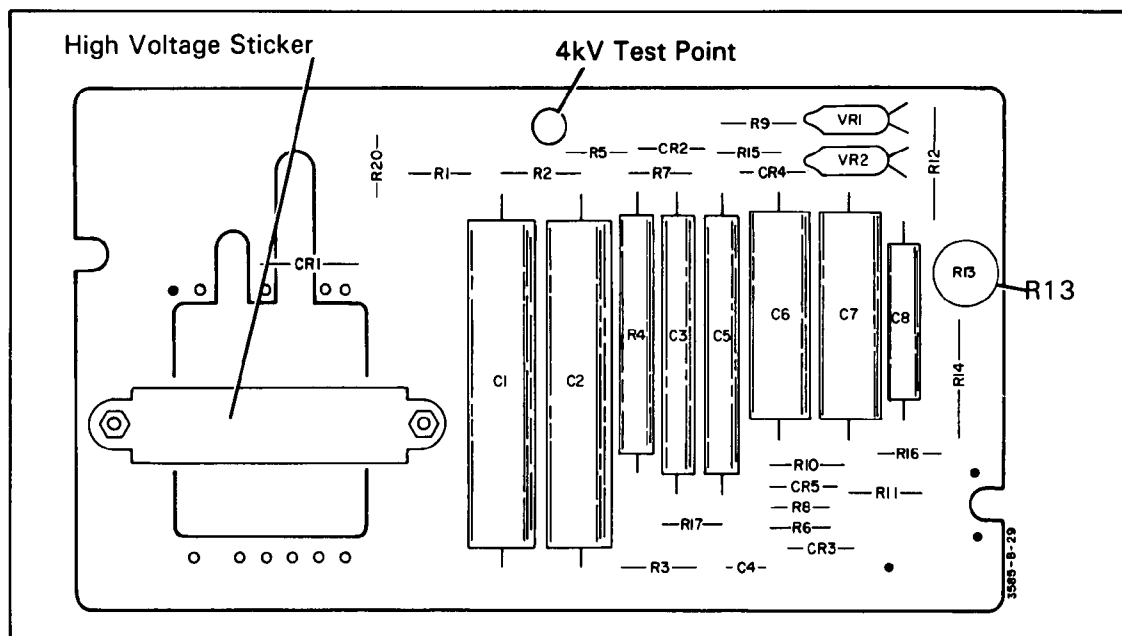

Figure 5-7. High Voltage Board (A65)
p. Adjust A67R46 for a voltage reading equal to the voltage marked on the high voltage sticker $\pm 10V$. See Figure 5-7 for the location of this sticker.